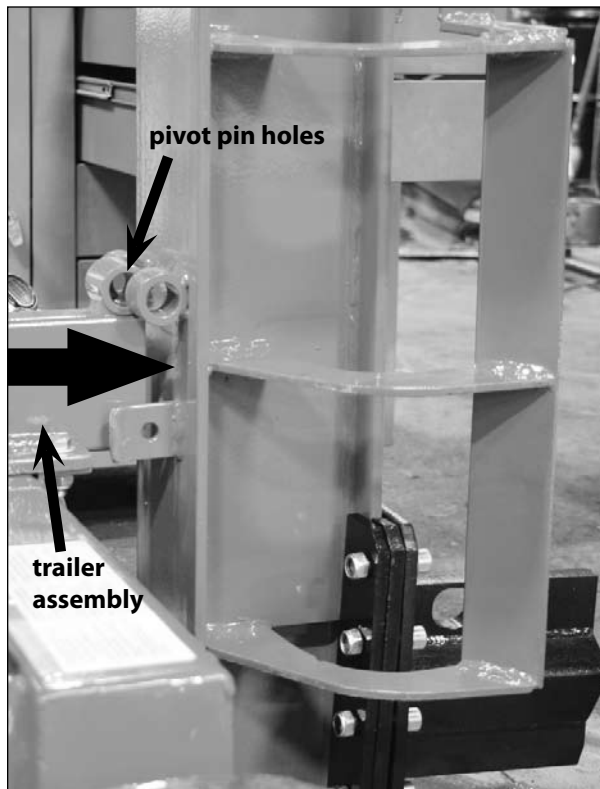
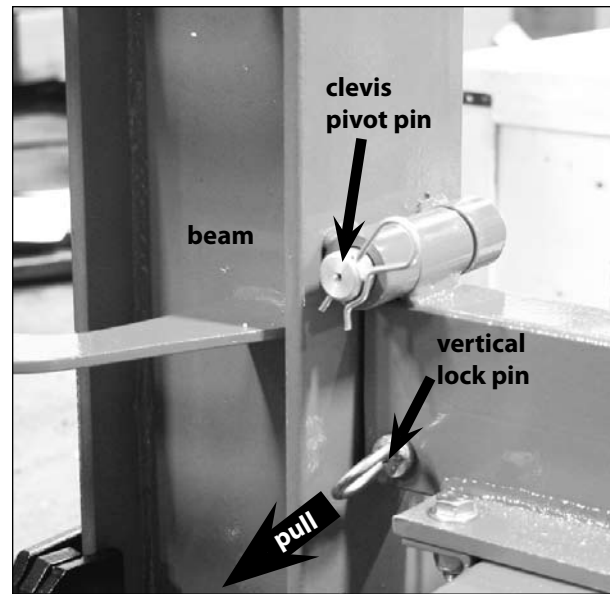

Figure 7
Figure 8
11. Slide the splitting wedge on the beam all the way to the end of the beam against the splitting foot. Stand the beam vertically on its splitting foot so the splitting wedge is pointing downward. Back the trailer assembly into the beam so that the pivot pin holes on the beam and trailer assembly are aligned with one another. **SEE FIGURE 7.** The spring loaded lock pin that is on the tongue, underneath the pivot pin hole, will need to be pulled back to allow the pivot pin holes to line up. **SEE FIGURE 8.** Insert the large clevis pin through the aligned pivot pin holes on both the tongue and beam, and secure in place with the corresponding hair pin. **SEE FIGURE 8.**